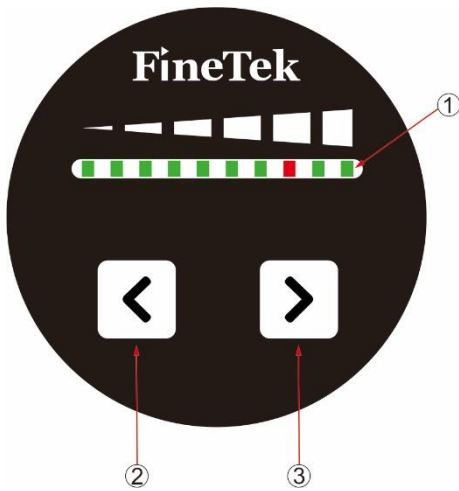
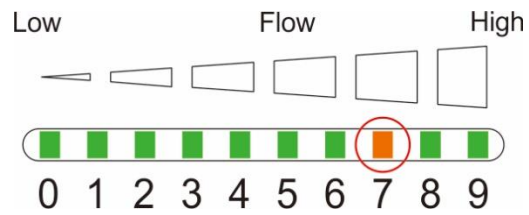
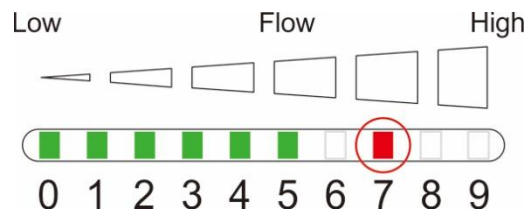
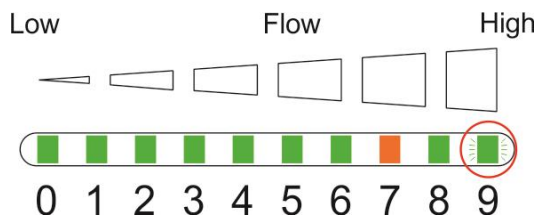

Figure 1
Figure 2
Figure 3
Figure 4
①	<ol style="list-style-type: none"> 1. Ten bicolor LEDs. 2. Green LED On: This LED indicates a fast or slow flow and displays the current flow rate (Figure 1). 3. Orange LED On: (Figure 2) <ul style="list-style-type: none"> ● The flow rate is at the alarm setting point. ● When the switch output functions of the relay (NC/NO) and NPN/PNP (Enable/Disable) switch alternately. 4. Red LED On: The flow rate is lower than the alarm setting; output action (Figure 3) 5. The green LED 9 flashes to indicate that the flow rate exceeds the current maximum flow rate setting (Figure 4). 6. The green LED 0 flashes to indicate that the flow rate is lower than the current minimum flow rate setting (Figure 5).
②	Left arrow key (for setting)
③	Right arrow key (for setting)